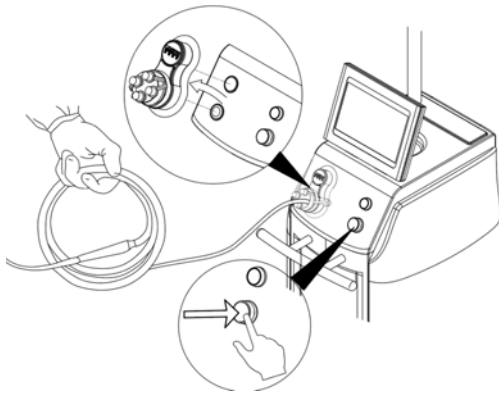

Figure 31 To Release Manifold
- d. Push the pop the manifold out Button until the manifold is unlocked, then pull the manifold and attached suction tubing out of the receptacle, always keeping the manifold in a horizontal orientation (Figure 31).